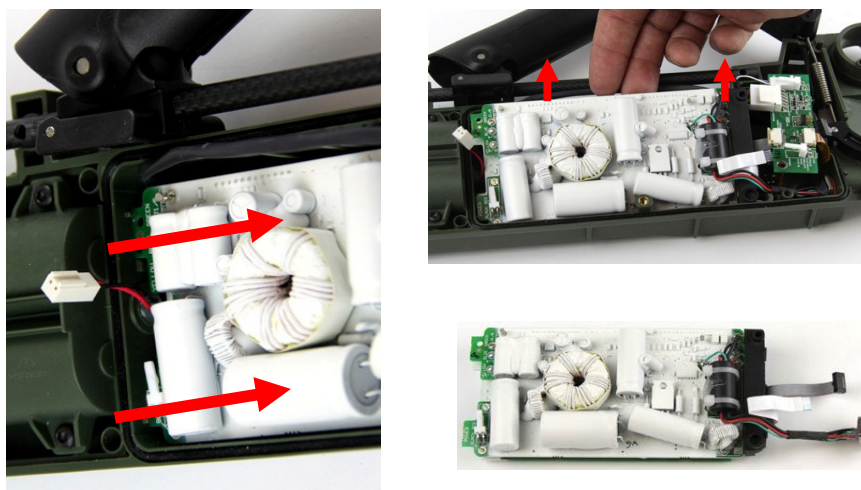

Figure 36: Lifting Main PCB Out of Detector
- Slide the main PCB away from the battery assembly until the ends of the main PCB disengage from the slots in the detector body near the battery compartment. Figure 36.